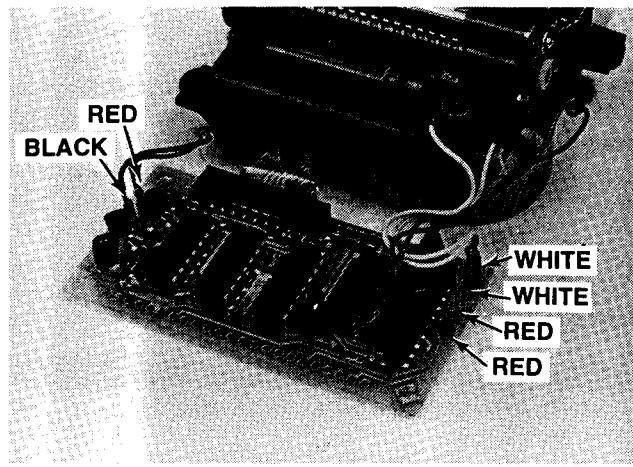

Figure 4-11. Printer PCA Lead Location
- (1) Remove paper from the printer and press **PRINTx**. The display should show "Error," and the printer should not attempt to print. If the out-of-paper switch passes this test, proceed to step b; otherwise, continue troubleshooting the problem at step (2).
- (2) If the out-of-paper switch does not inhibit printing as described above, disconnect the two red leads from the printer PCA near the "0" (see figure 4-11) and insert a continuity tester between them. If the tester does not light with paper out of the printer, clean or—if necessary—replace the out-of-paper switch after disassembling the printer using steps b and c and figure 6-2.
- (3) If step (2) shows the out-of-paper switch to be functioning properly, disconnect the red and black leads to the paper advance switch from the logic PCA (see step 6 of the HP-97 assembly removal and replacement procedures, paragraph 3-24) and insert a continuity tester between them. If the tester does not light (when the paper advance switch is **not** pressed), replace the switch by following the procedures given in step 12 of the procedures referenced above, paragraph 3-24.
- (4) If steps (2) and (3) show the out-of-paper switch and the paper advance switch to be functioning properly, replace ROM 0 on the logic PCA.
b. Disconnect the dc motor leads (one red and one black), out-of-paper switch leads (two red), and reed switch leads (two white) from the printer PCA. (See figure 4-11.)